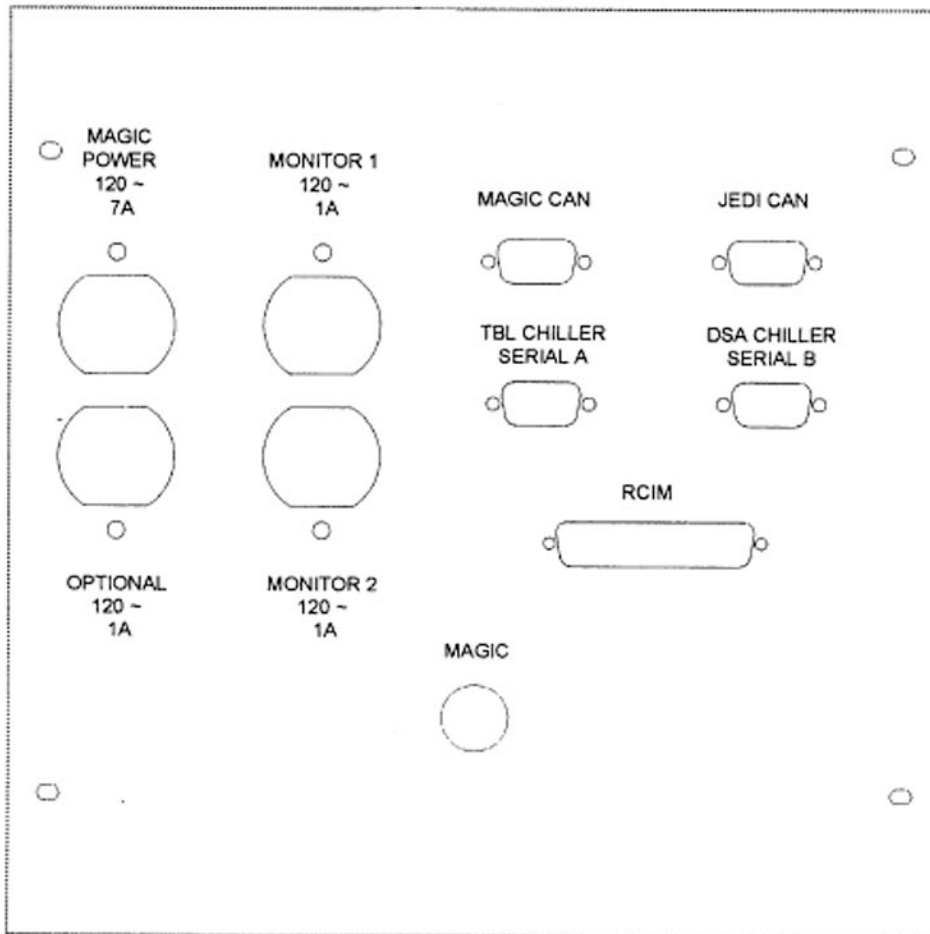

Figure 5-1 Wall Plate Dimensions 266.7 x 266.7 mm (10.5 x 10.5 in)
- Operator Console - Figure 5-2 through Figure 5-4 and Figure 5-1 (wall plate).